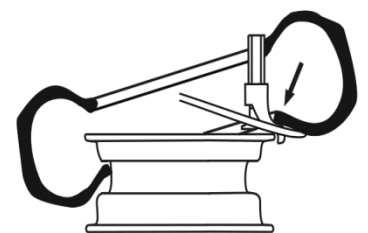

Fig. 19
- Repeat the operation for the other bead (fig.19).